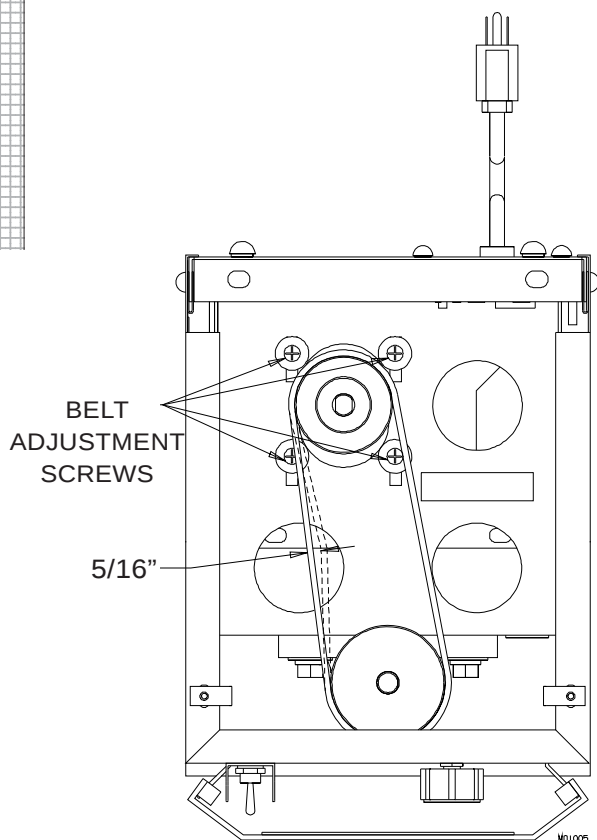

Figure 2. Location of Belt Adjustment Screws
2. Depress belt with your finger at the midpoint between the pulleys (see figure 2). When adjusted properly, the belts should depress $5/16$ " with approximately five pounds of pressure.
3. Adjust to the proper tension by resetting the four adjustment screws (see figure 2) holding the motor housing in place.